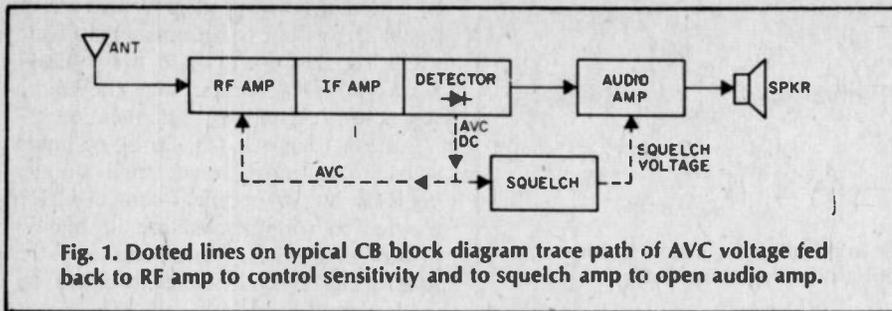

Fig. 1. Dotted lines on typical CB block diagram trace path of AVC voltage fed back to RF amp to control sensitivity and to squelch amp to open audio amp.
**From Carrier to Control.** The overall idea appears in Fig. 1. We've shown a standard broadcast station transmitting a signal whose carrier is increasing from weak to strong in three steps. Note that the carrier is assumed to be originating from the station at three fixed levels, with no audio modulation at this time. (Audio causes a complication we'll get to in a moment.)
As shown in Fig. 1, there's an AVC filter comprised of a resistor and capacitor. In a typical tube circuit these values are a few megohms for the resistor and about .05  $\mu$ F for the capacitor. They form a filter which responds at the rate of about 0.1 second (its *time constant*). This interval of time has been carefully selected to fulfill certain boundaries of AVC operation.
Fig. 1. Diode detector develops AVC voltage in typical tube-type receiver. For simplicity's sake, carrier is shown unmodulated but is assumed to originate in three fixed levels.
**DC Up Front.** To this point the circuit has developed a control voltage that's synchronized to incoming carrier strength. As shown in Fig. 1, the carrier has produced a shift of from  $-2$  to  $-8$  DC volts at the output of the filter. This is approximately the AVC voltage you'd measure in typical tube-type receivers. Now it's only necessary to provide a feedback loop to carry the AVC back to an earlier stage. How this is done is illustrated in the actual schematic of a typical tube radio in Fig. 3.
**Stealing AVC.** Simple squelch circuits are little more than electronic switches tripped by the receiver's AVC (automatic volume control) voltage. The overall idea is shown in the block diagram of Fig. 1 which represents a typical CB receiver. An incoming signal from the antenna passes through various stages until it reaches the detector where it's converted to audio. In the detector, too, a portion of the carrier signal (which is AC) is converted to DC by a diode rectifier. Since the DC signal will vary in strength with the carrier, it's used to protect the receiver against overload or excessive volume changes. This is the AVC voltage and, as shown by the dotted line in Fig. 1, is fed back to earlier stages in the receiver. If an incoming signal rises in strength, AVC is returned in a direction which reduces the RF (and sometimes the IF) amplifier gain.
As seen in the block diagram of Fig. 1, this will occur in a "squelch" stage connected to AVC voltage, and also to the audio amplifier to be controlled. Let's trace how a typical squelch circuit might appear in both tube and transistor CB receivers.
**Conventional AM.** To grasp the mysteries of sideband, begin with regular AM. Sideband is, in fact, a form of Amplitude Modulation, but with major electronic surgery. Many students of radio have been brought up on the basic picture of AM shown in Fig. 1. It shows a radio carrier produced by an oscillating crystal, then amplified in a final radio-frequency stage of a transmitter. As the name implies, the carrier bears the voice or intelligence over long dis-
Fig. 1. This is how AM works. The carrier wave, generated by a fixed-frequency crystal oscillator, has its amplitude modulated by the audio signal. The modulated carrier is transmitted at crystal frequency.